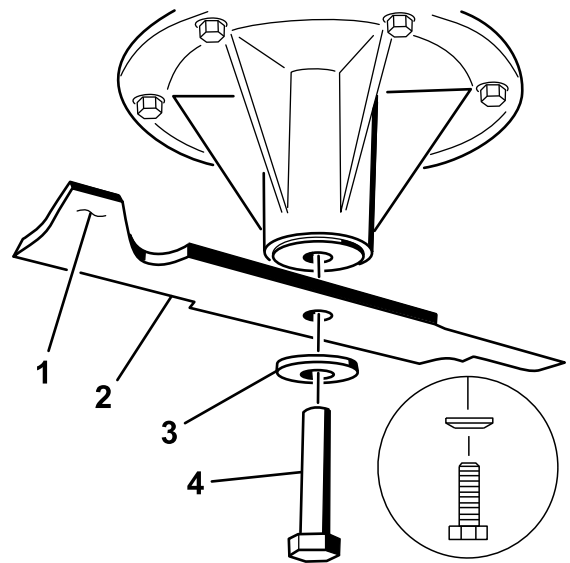

Figure 78
1. Install the blade onto the spindle shaft (Figure 78).
2. Install the spring disk and blade bolt (Figure 78).
Note: The spring-disk cone must be installed toward the bolt head (Figure 78).